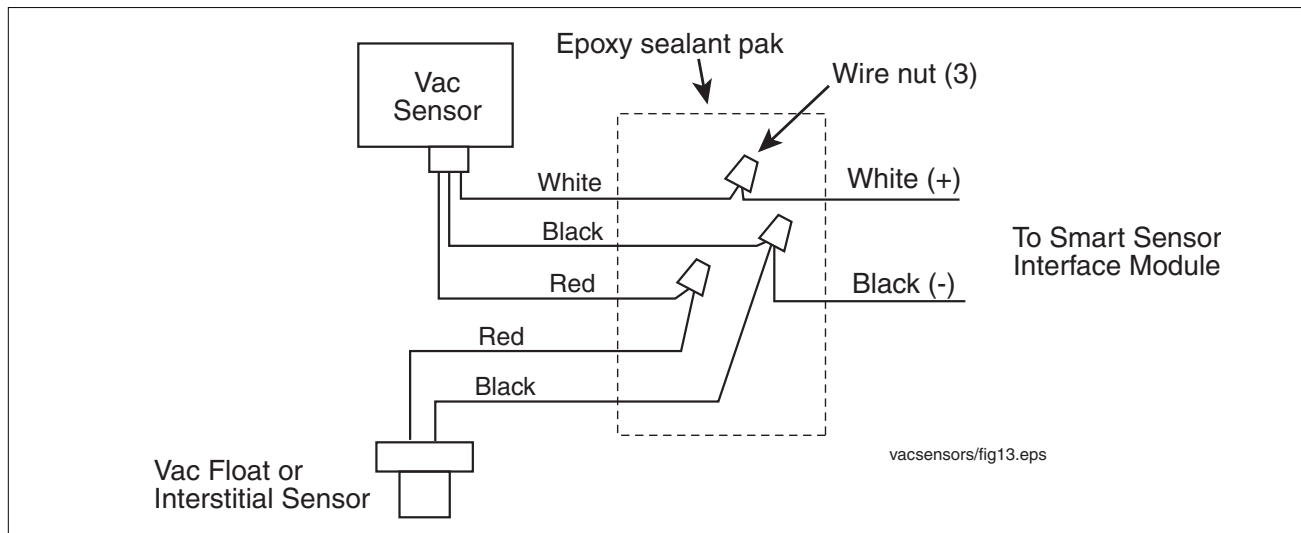

Figure 7. Field wiring connections
4. Strip back the leads of one of the cables from the TLS Console 3/8". Strip back the leads of the Vac Sensor/Vac Float pairs 3/8". Using wire nuts from the kits attach the wires as per the diagram in Figure 7. NOTE: the Vac Sensor cable has three wires and the Vac Float cable has two wires.